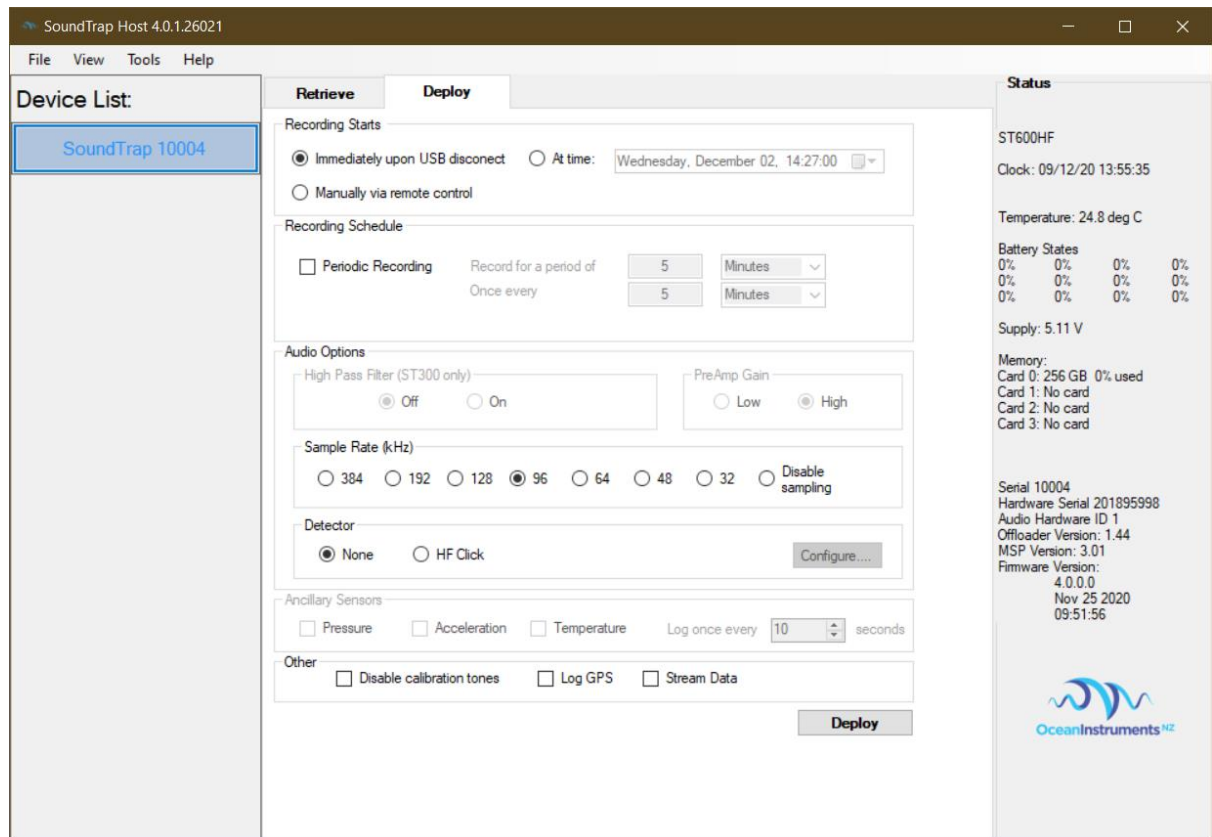

Figure 2 – Deploy Control
- Where heavy fouling is likely to occur, we recommend sealing the gap by means of a couple of turns of insulation tape (figure 2).